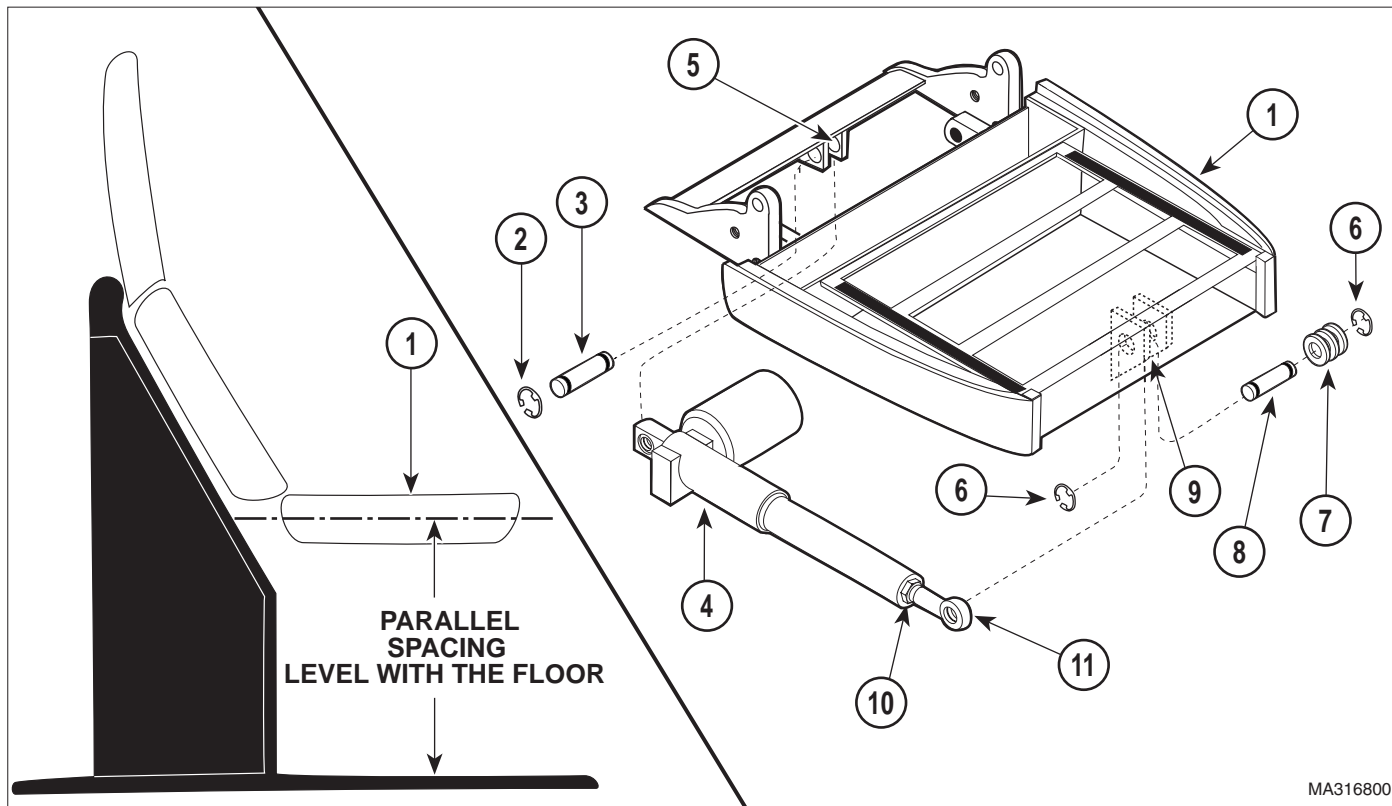

Figure 4-3. Seat Actuator Removal / Installation
- (7) On later units, remove two screws (9) and partially separate receptacle bracket (10) from pivot frame (11).
- (8) Cut any cable ties securing wire / wire harnesses to seat actuator (2).
- (9) While supporting seat section (1, Figure 4-3), remove two e-rings (2), clevis pin (3), and base of seat actuator (4) from bracket (5).
- (10) While supporting seat section (1), remove two e-rings (6), spacers (7), clevis pin (8), and seat actuator (4) from bracket (9). Remove seat actuator from chair.
- (1) Loosen jam nut (10, Figure 4-3); then remove swivel joint (11) from shaft of new seat actuator (4).
- (2) Coat threads of swivel joint (11) with permanent threadlocking adhesive (Loctite 262).
- (3) Screw swivel joint (11) into shaft of seat actuator (4).
- (4) While supporting seat section (1), install base of seat actuator (4) on bracket (5) and secure with clevis pin (3) and two e-rings (2).
- (5) While supporting seat section (1), install shaft end of seat actuator (4) on bracket (9) and secure temporarily with clevis pin (8).
- (10) Secure wires / wire harnesses to seat actuator (2) with a cable tie.
- (11) Install actuator sleeve (1) on shaft of seat actuator (2) and secure with two cable ties.
- (12) Run SEAT UP function all the way up and then run TABLE DOWN function all the way down.
- (13) If seat section (1, Figure 4-3) *is* level with floor, go to step 18. If seat section (1) *is not* level with floor, go to step 14.
- (14) While supporting seat section (1), remove clevis pin (8) securing swivel joint (11) of seat actuator (4) to bracket (9).
- (15) Screw swivel joint (11) in or out as determined necessary in step 13.